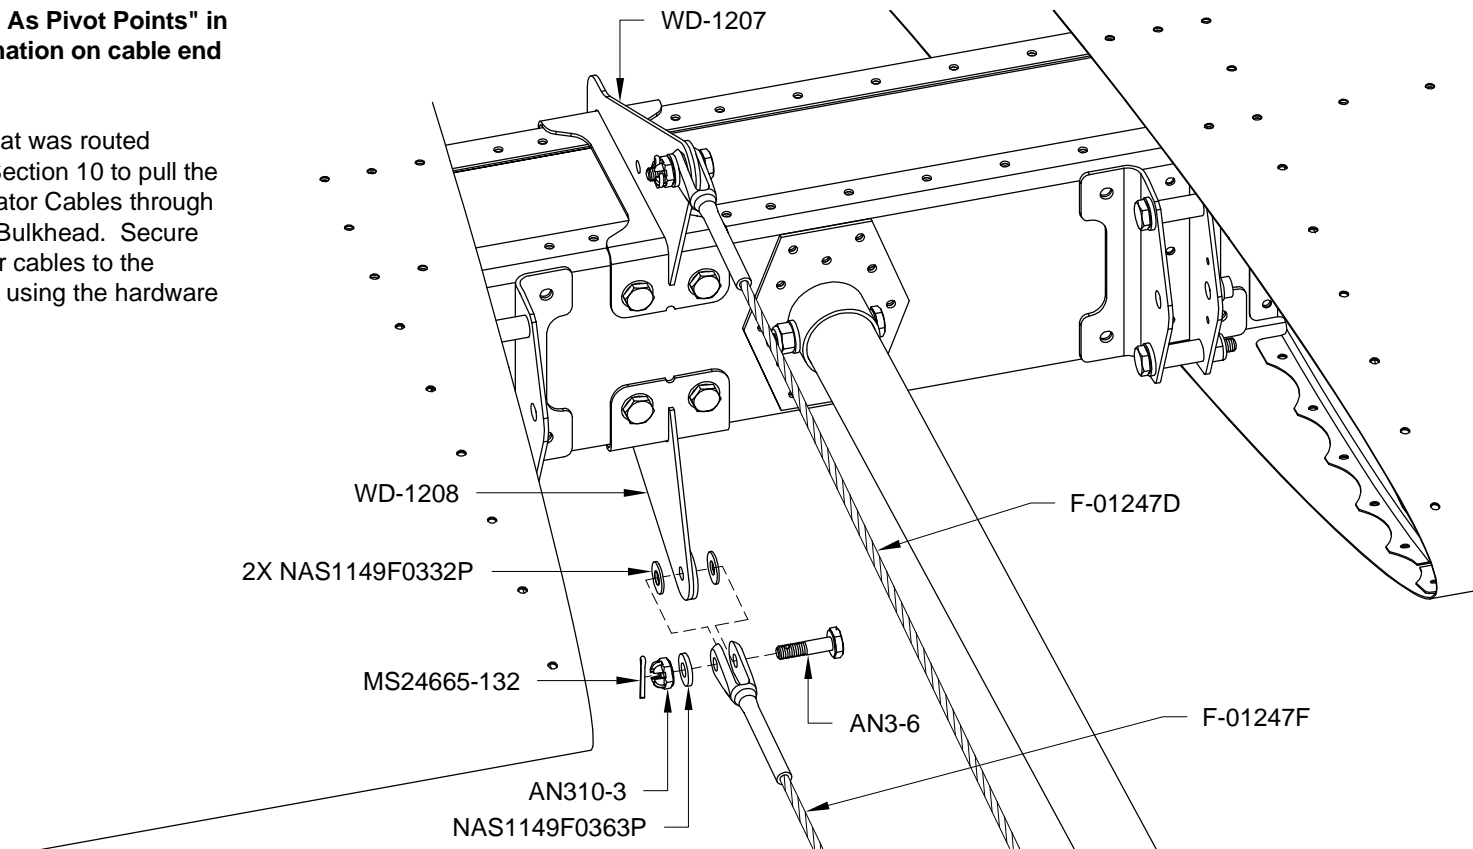

FIGURE 1: CONNECTING THE STABILATOR CABLES
Step 1: Use the string that was routed through the tailcone in Section 10 to pull the F-01247D & F Aft Stabilator Cables through the holes in the F-1211 Bulkhead. Secure the ends of the stabilator cables to the WD-1207 and WD-1208 using the hardware called out in Figure 1.